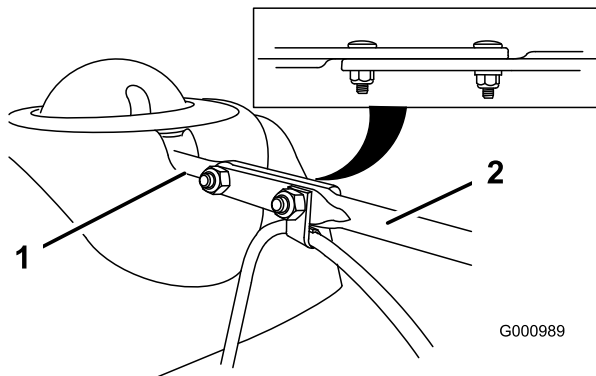

Figure 9
3. Align the flattened back end of the long chute control rod with the flattened front end of the short rod that extends from the control panel so that they nest together (Figure 9).